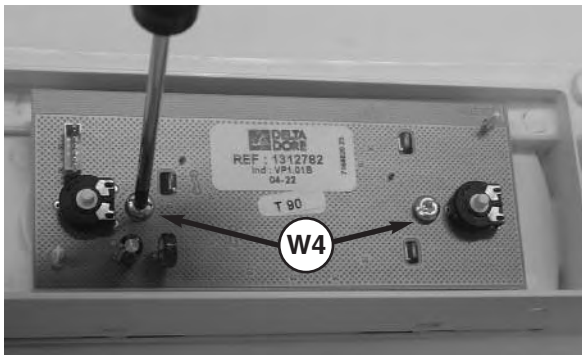

Fig. 103
6. To remove the display PCB, remove the two screw **W4** and lift the PCB out (see Fig. 103);